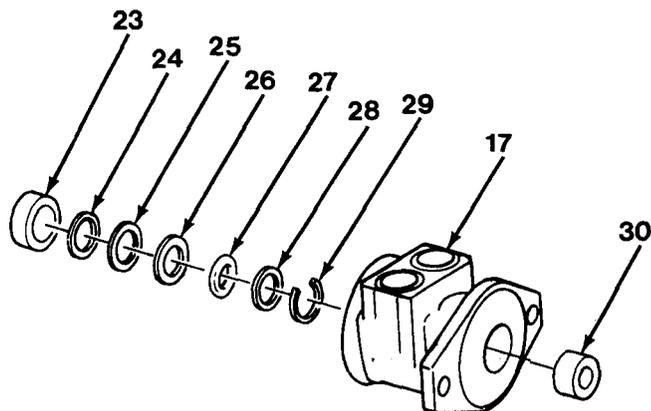

Figure 13-8
Apply molybdenum disulfide MIL-M-7866 to new bearing (30) rollers. Turn housing (17, Figure 13-8) over and install new bearing (30) to a depth of 1.598 to 1.618 in. (40.59 to 41.10 mm). Make sure new bearing (30) is not cocked and is square to housing (17).